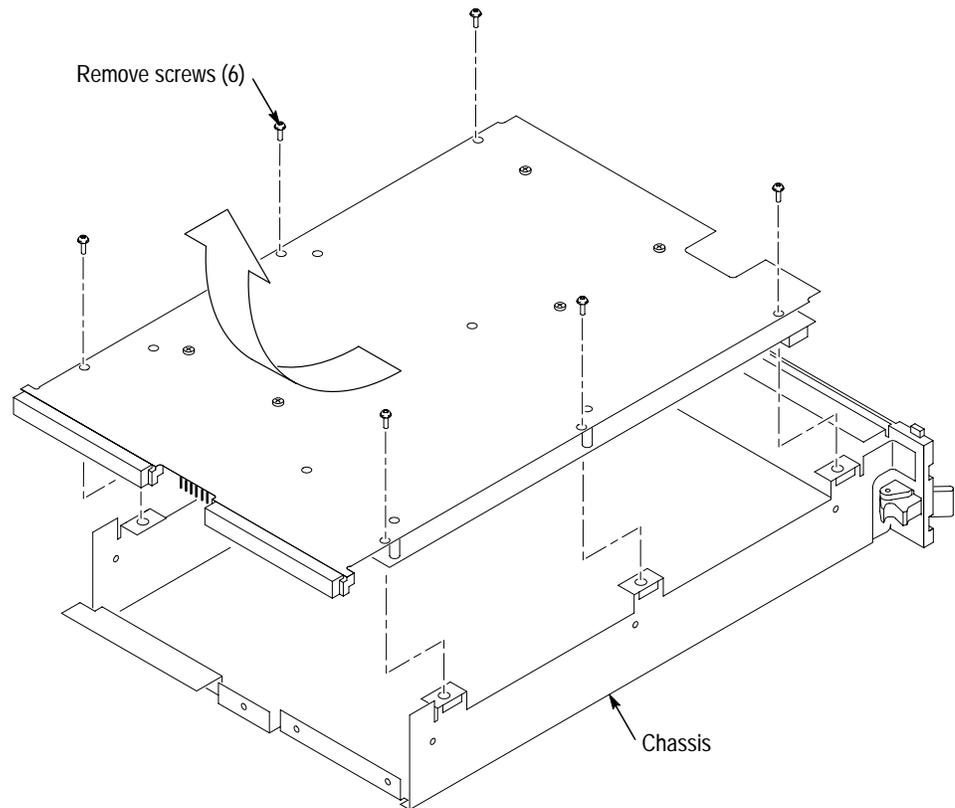

Figure 7: Subassembly removal
10. Remove the six Phillips screws that attach the subassembly to the chassis. (See figure 7.)